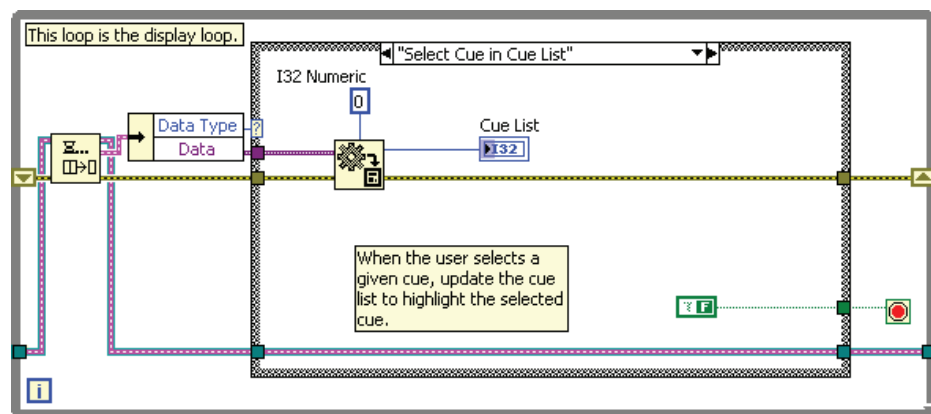

Figure 7-6. Select Cue in Cue List Case
1. Modify the Select Cue in Cue List case of the display loop as shown in Figure 7-6. Use the following items: